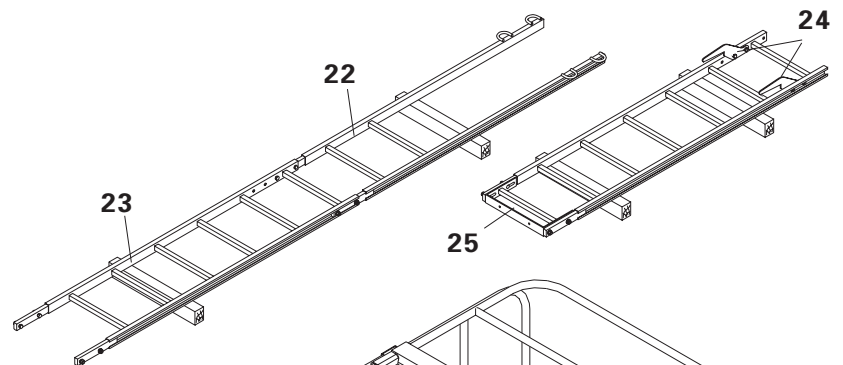

Fig.11
- attach ladder base **25** and ladder hook **24** to last ladder, SW 19. Fig. 11